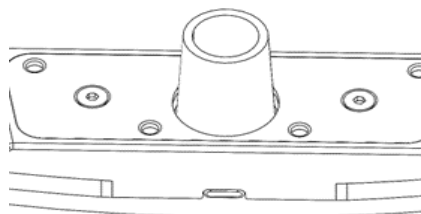

FIGURE 10-19
3. Clean the hose (**Fig. 10-19**) under a stream of running water. check that the hose is free of debris after cleaning.